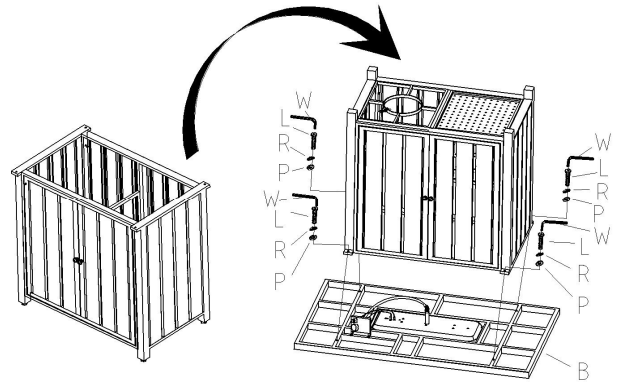

Figure 5
5. Turn over the assembled frame, and attach to the top (B) with 4 bolts $\frac{1}{4}$ in x 30 mm (L), 4 flat washers (P) and 4 spring washers (R) by using the Allen wrench (W),(see figure 5)